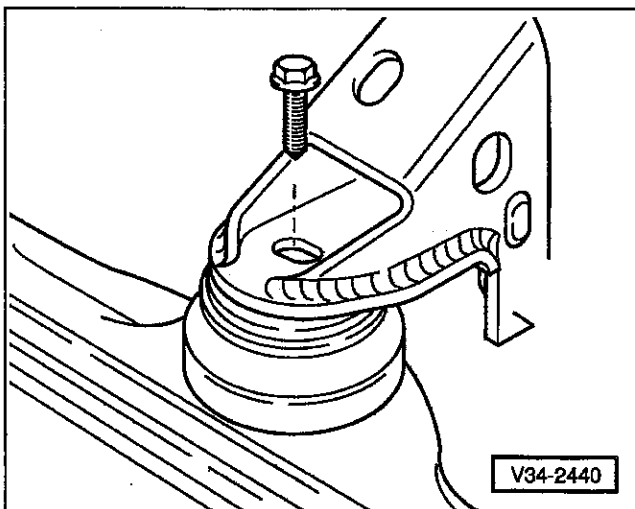

Fig. 19. Mounting bolt for front engine mount.
12. Remove mounting bolt from front engine mount. See Fig. 19.